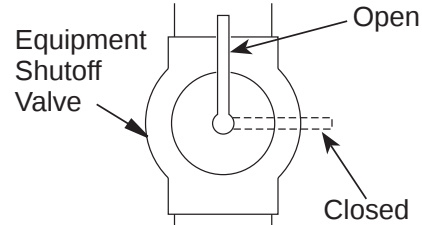

Figure 15 - Equipment Shutoff Valve
1. Close equipment shutoff valve (see **Figure 15**).
1. Open equipment shutoff valve (see **Figure 15, Page 16**).